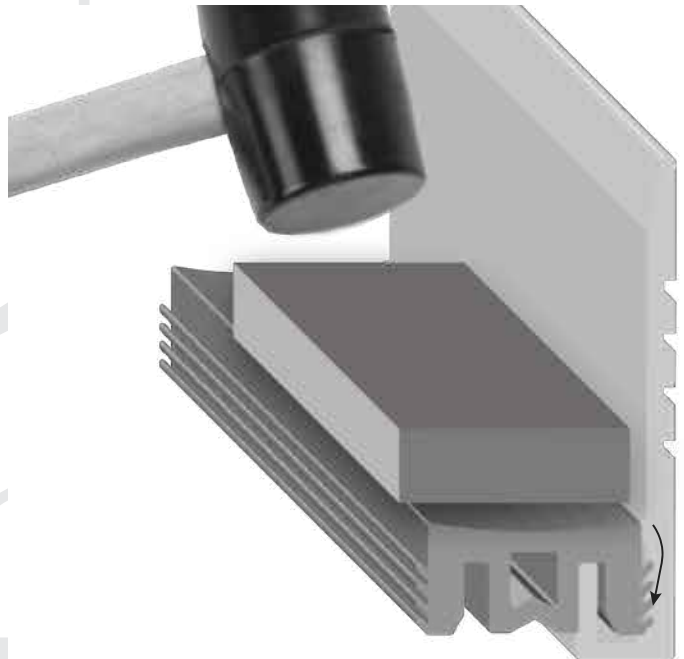

Figure 5—Face Seal Wall Member Installation
7. Using a wood block and mallet, lightly tap the face seal tab into the channel along the installed wall base members the entire length of the joint (Figure 5).